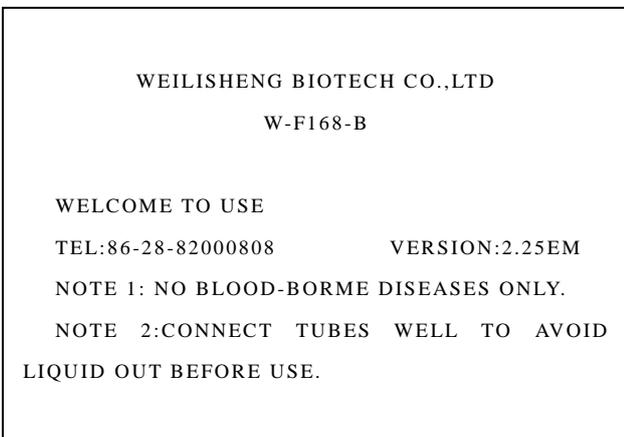

Figure 8-8
8.12 Press on-off switch, the interface skips from welcome interface to self-test procedure interface automatically in LCD touch screen. (Figure 8-8, 8-9)